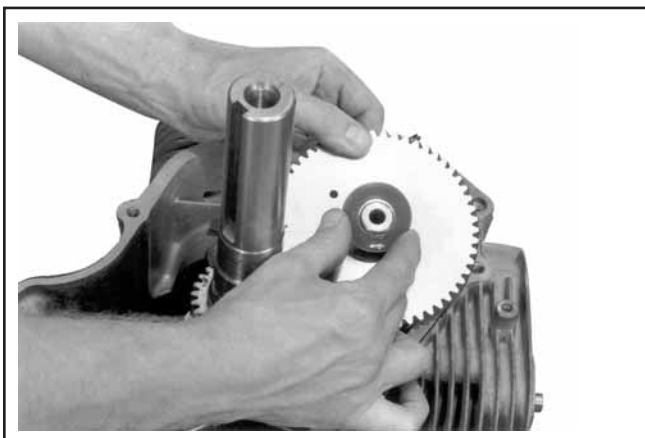

Figure 10-17. Change Shim to Obtain Correct End Play.
4. If the camshaft endplay is not within the specified range, remove the endplay tool and shim accordingly. See Figure 10-17. Shims are color-coded by thickness and listed below.